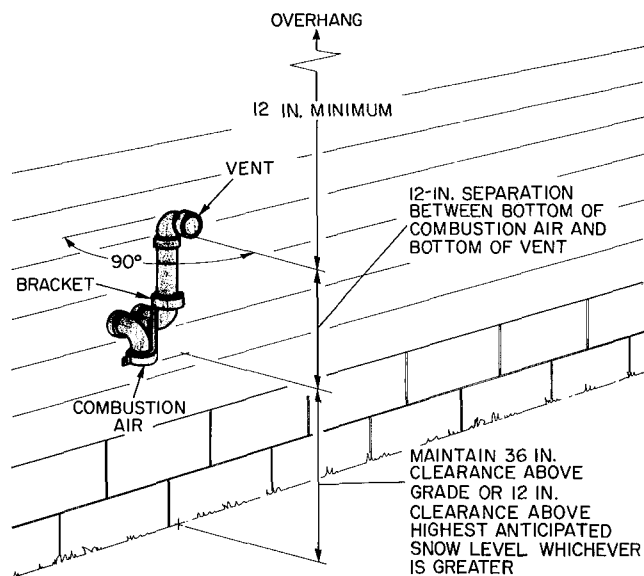
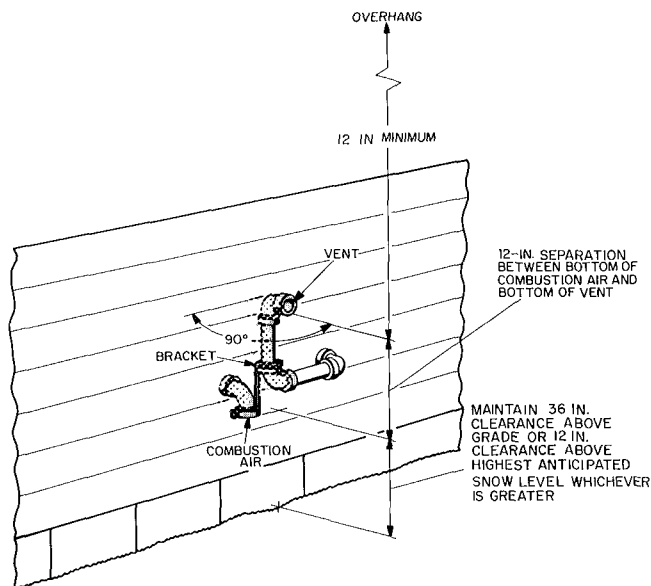

Fig. 2 — Sidewall Vent Termination Above Snow Level or Grade (Preferred)
Fig. 3 — Sidewall Vent Termination Above Snow Level or Grade (Option)
Install kit as follows when combustion-air and vent pipes exit through sidewall above snow level or grade. (Fig. 2 and 3).
NOTE. The arrangement in Fig. 2 is preferred. The arrangement in Fig. 3 is an option for the vent pipe only.
3. Install elbows as shown in Fig 2 or 3. Clean them and apply cement using procedures described in Combustion-Air and Vent Piping.
4. Install bracket as shown in Fig. 2 or 3
5. Position vent-pipe assembly, maintaining a 12-in. separation. Cement vent pipe in elbow as shown in Fig. 2 or 3.
6. For applications using vent-pipe option (indicated in Fig. 3), rotate vent elbow 90 degrees from position shown in Fig. 2.